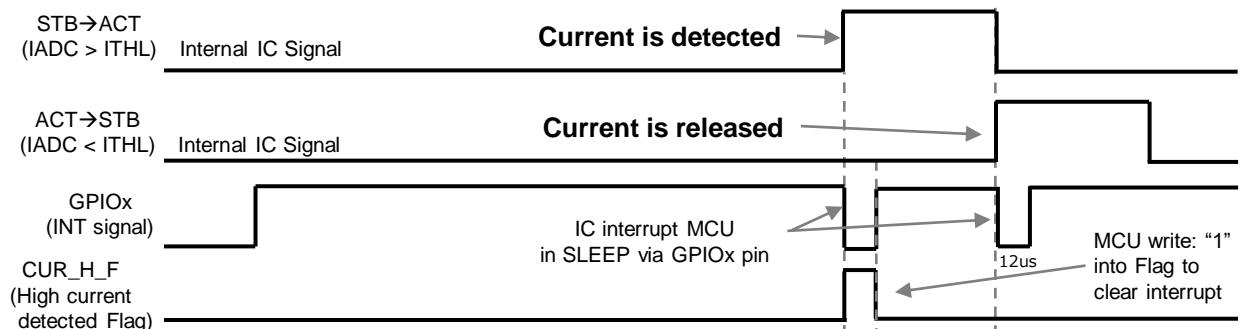

Fig.7.4.5 Waveforms of Auto Current Detection mode
*This function is only available when IC is operating in Low power/Standby intermittent mode of operation with auto current detection mode enable. (Refer to mode of operation page 31 for this operation state machine) MCU can make use of this interrupt signal to wake itself as a form of power saving. Refer to Fig.7.4.5 for waveform example